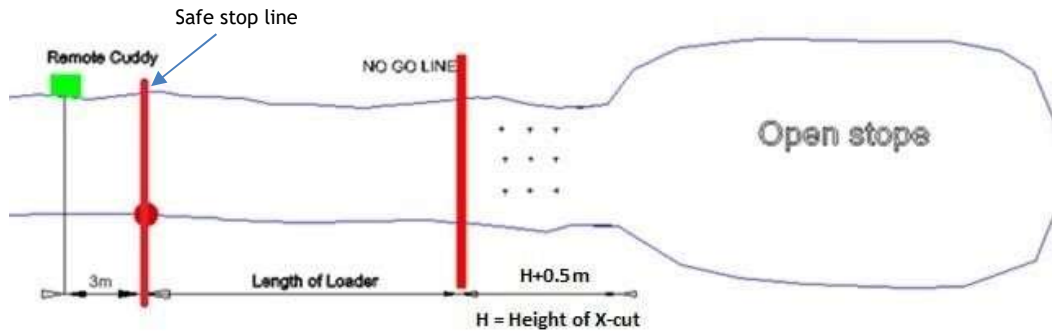

Fig. 4. Safe operating distance for remote operation of loader
5.11 NO GO Line - a safe distance from the open edge of the stope beyond which the entry of the personnel is prohibited. The NO GO line shall be marked by the competent supervisor (ref. Fig 4). Points for consideration for NO GO line. Normally this distance varies from 6 to 9m for drive of $\pm 5m$.
5.12 Safe stop line - a remote loader operator is not permitted to move a loader on remotes behind this line (towards operator), the safe stop line should be at least 10m on the stope side of the remote cuddy (ref. Fig. 4)
5.13 Remote cuddy/Man Cuddy - a safe place for the LHD operator from where the loader can be operated through remote control of the machine (ref. Fig 4). Following points shall be considered for selection of remote cuddy.
The minimum distance between the operator and the machine beyond which the hazard associated with the functioning are acceptable (ref. Fig. 4)